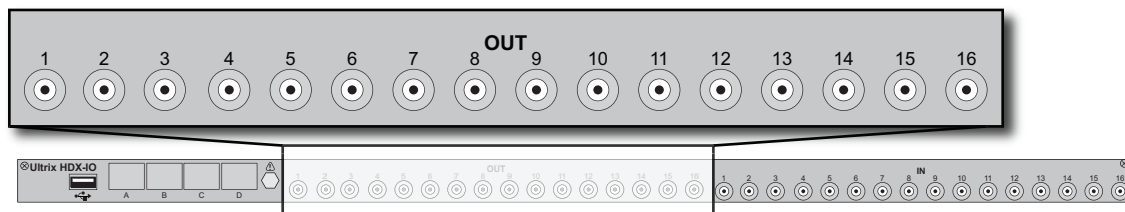

Figure 53 Ultrix Rear Panel — SDI Output BNC Mapping for an ULTRIX-HDX-IO Blade
**Figure 53** outlines the output cabling designations for an ULTRIX-HDX-IO blade. The output BNCs are located on the left side of each blade.